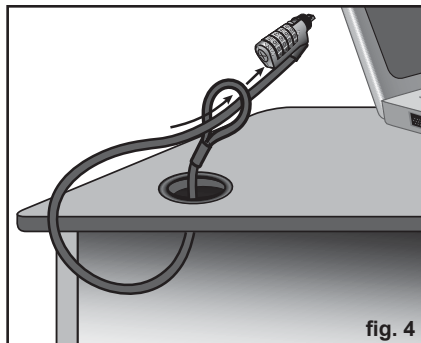

fig. 4
1. Lasso the security cable to a stationary object (such as a desk through-hole or a cable anchor) by passing the lock body through the looped end of the security cable [fig. 4]